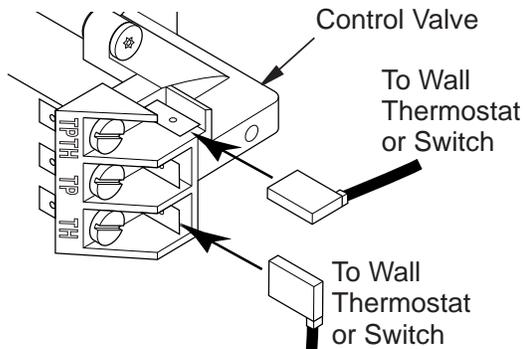

Figure 21 - Connecting Wire Terminals
2. Connect one terminal of 25 ft. wire to the "TH" terminal on the control valve. Connect the other terminal to the "THTP" terminal on the control valve. See **Figure 21, Page 17**.
2. Connect one terminal of 25 ft. wire to the "TH" terminal on the control valve. Connect other terminal to the "THTP" terminal on control valve. See **Figure 21**.